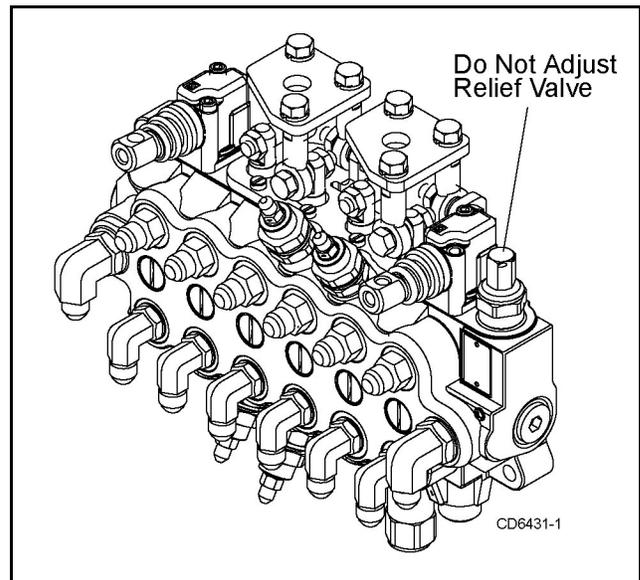

Figure 18. Relief Valve, BH85 & BH100
Relief Valve (Figure 18)
Position spool wipers (A) (Figure 18) on swing, dipper, and bucket spools in linkage plate. Reinstall control linkage. Note the screws installed in the boom and dipper spools should be tightened until snug, then backed off approximately 1/2 turn to allow free movement of the joystick.
3. Spool pos cont asy 4 pos	12. Handle control-stabilizer
4. Spool pos cont asy 3 pos	13. Plug - PB (if required)